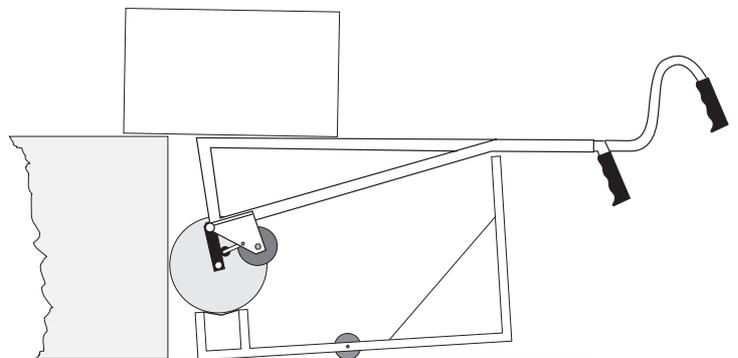

FIGURE 44
5. Figure 44 shows how to wheel the supporting frame plus its load right in front of the foundation on which you'd like the heating boiler.
6. By pushing the up/down switch, level the height of the **CargoMaster** with the height of the foundation in order to push the heating boiler on it (see Figure 44).